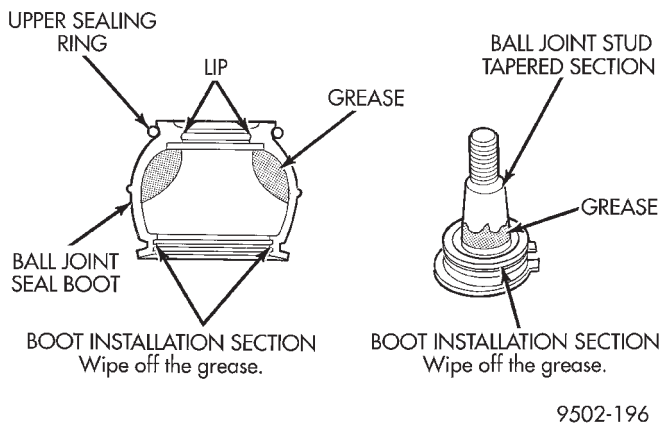
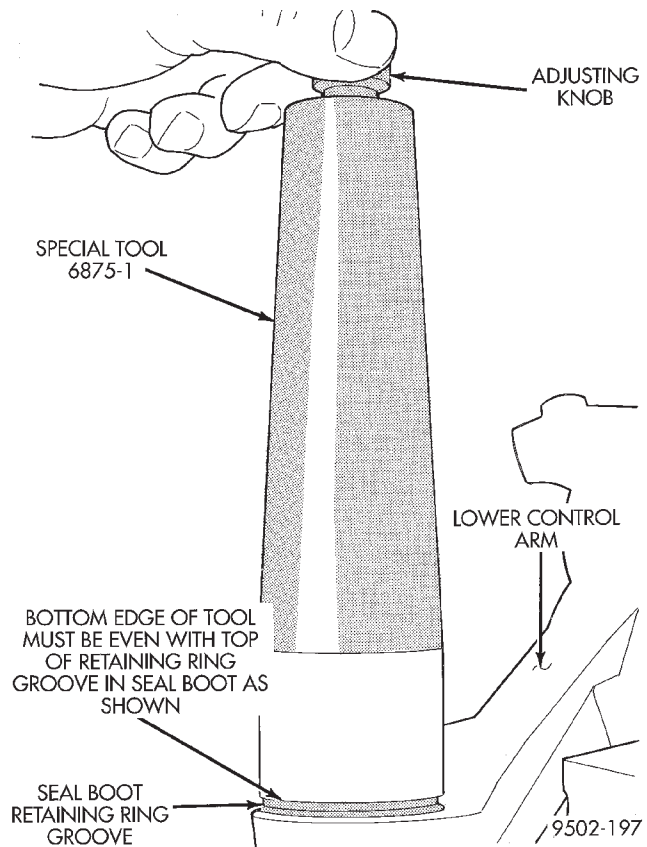

Fig. 107 Grease Correctly Applied To Ball Joint Stud And Seal Boot
Fig. 108 Correctly Installed Ball Joint Seal Retaining Ring Tool
(1) Apply grease from the ball joint seal kit, to the specified areas of the ball joint stud and seal (Fig. 107). Be sure no grease is present on the seal boot installation section of the seal boot or lower control arm (Fig. 107).
(2) Slide ball joint seal boot with upper seal ring installed, (Fig. 107) down tapered section of ball joint stud (Fig. 107). Seal boot is to be installed on stud of ball joint until seal boot is sitting on seal groove in lower control arm.
(3) Carefully position ball joint seal boot in seal retaining groove on lower control arm. After installing seal boot in retaining groove, carefully bleed air out of sealing boot without getting grease pushed into seal boot retaining groove in lower control arm.
(4) Place Retaining Ring Installer, Special Tool, 6875-1 over ball joint seal boot (Fig. 108). Using adjusting knob, adjust tool so bottom edge of tool is even with top of retaining ring groove in seal boot (Fig. 108).